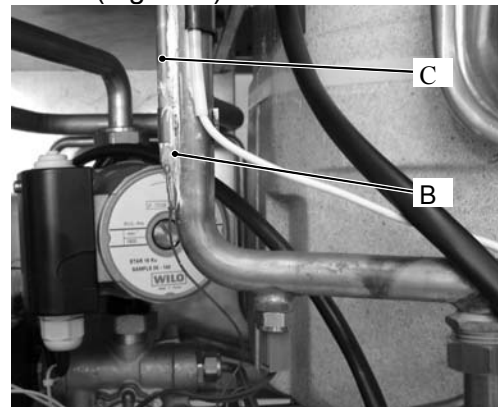

Figure 2
- 2) Remove the probe holder spring B freeing the probe C (Figure 2).